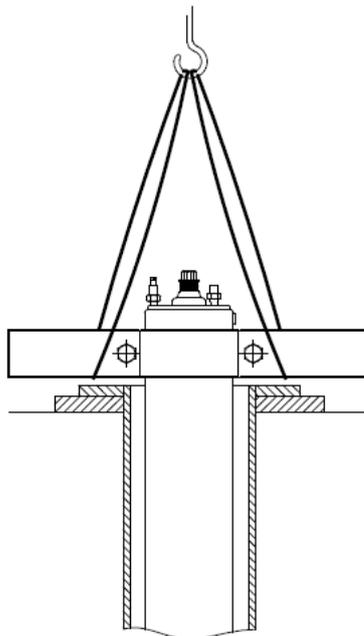

Fig. 2 Motor in vertical position
2. Place the motor in vertical position at the borehole seal, see fig. 2